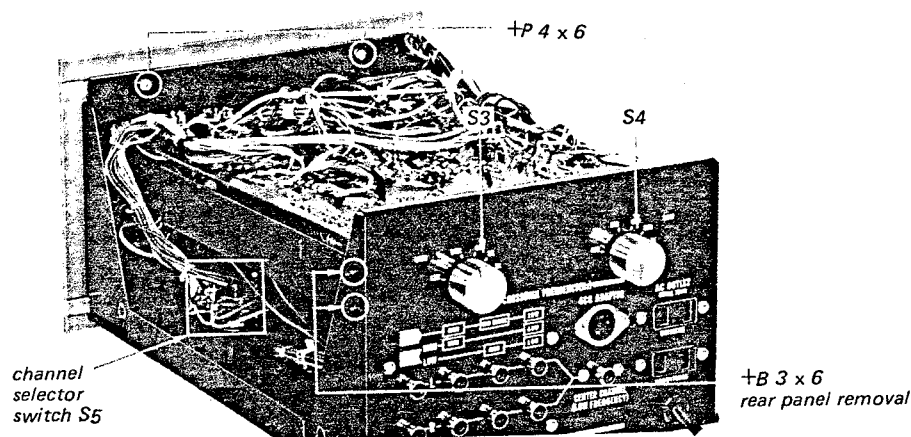

Fig. 2-2 Front panel removal
3. Remove the two screws (+P 4 X 6) securing the front panel from the back of the front subchassis as shown in Fig. 2-2.
3. Remove the two screws (+B 3 X 6) at each side of the rear panel as shown in Fig. 2-2.